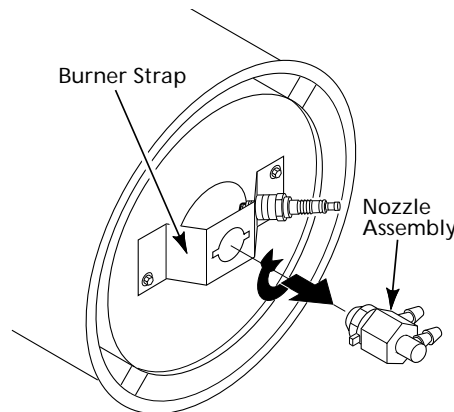

Figure 25 - Removing Nozzle Assembly, Models 2E510D and 2E511D
4. Turn nozzle assembly 1/4 turn to left and pull toward motor to remove (see Figure 25).